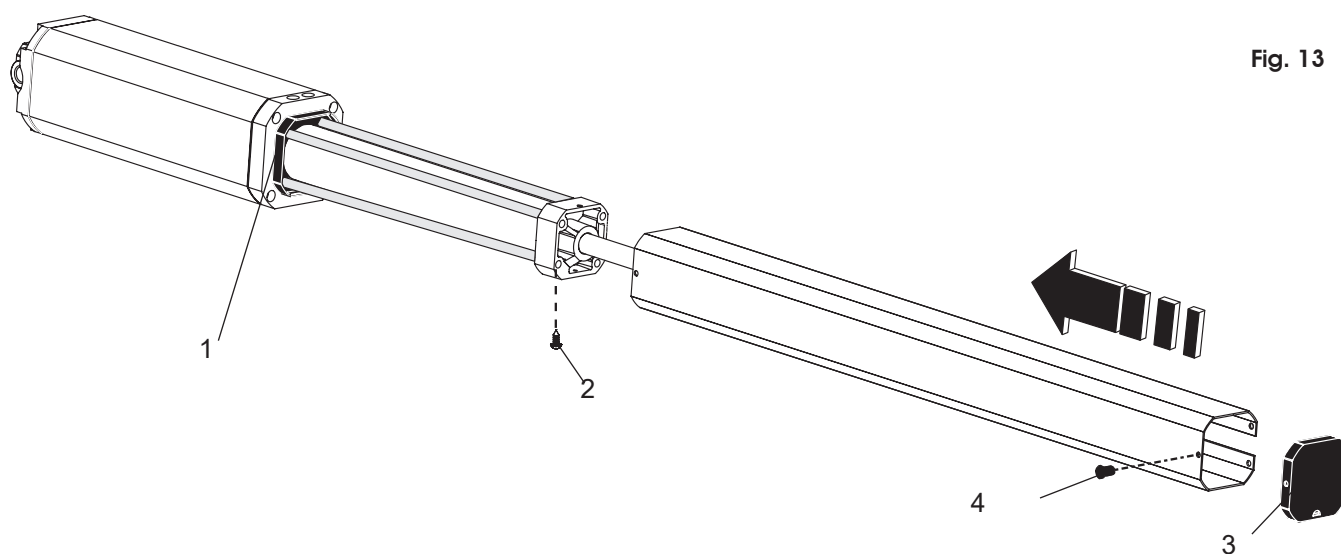

Fig. 13
Slip the cover over the operator. The slit in the cover should face the gate, and the cover should be placed firmly over the rear of the operator cover (Fig 13 ref (1)). Secure the cover to the operator using the self tapping screw (2).